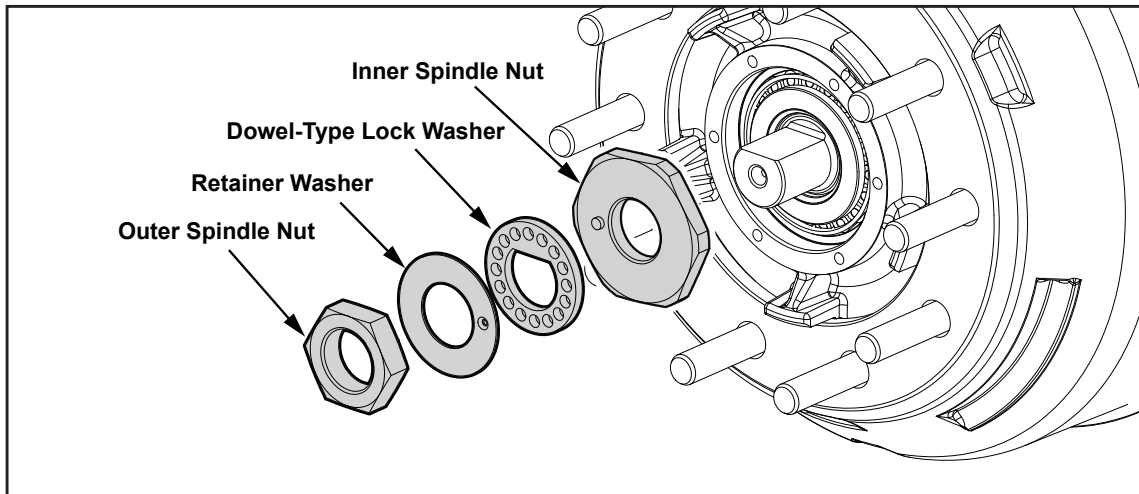

Figure 10
1. Remove the outer spindle nut, retainer washer and dowel-type lock washer and set aside for reinstallation (*see Figure 10*).